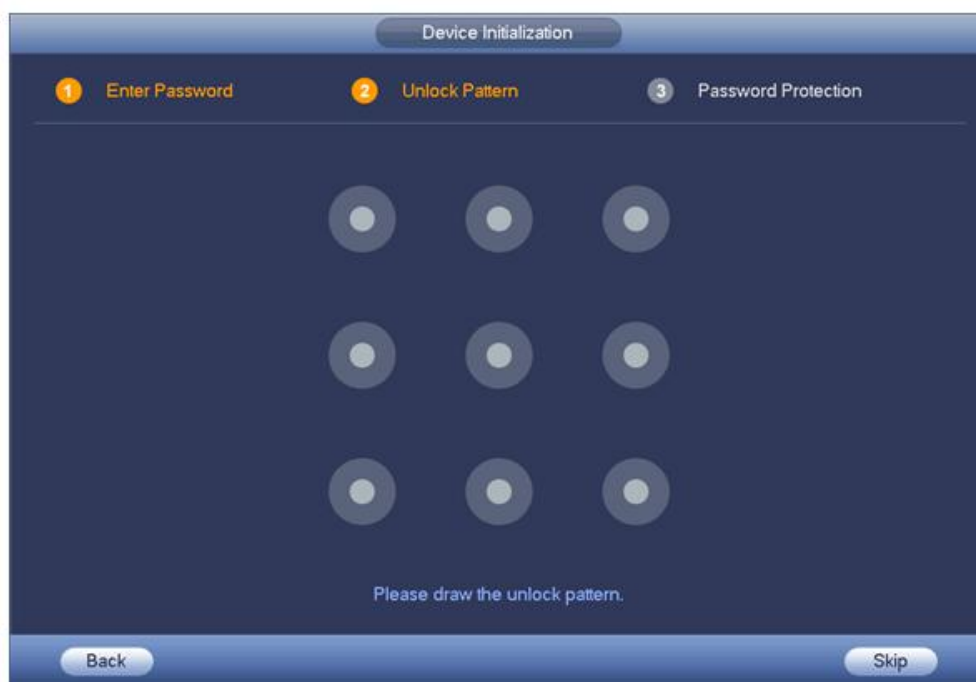

Figure 2-2
Step 3 Click Next, device goes to the following interface. See Figure 2-2.